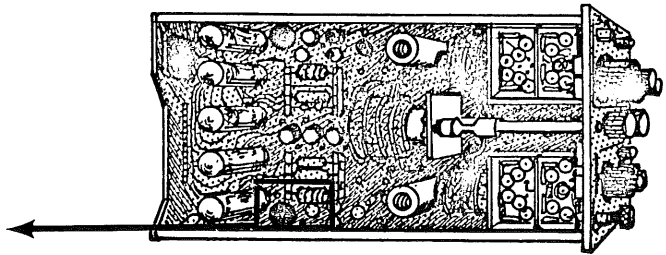

Figure 5-59
6. Set the TRIG SOURCE to CRT SIG and adjust the TRIG OUT DC LEVEL CRT SIG, R353 - See Figure 5-59, for 0 volts as read on the test scope.